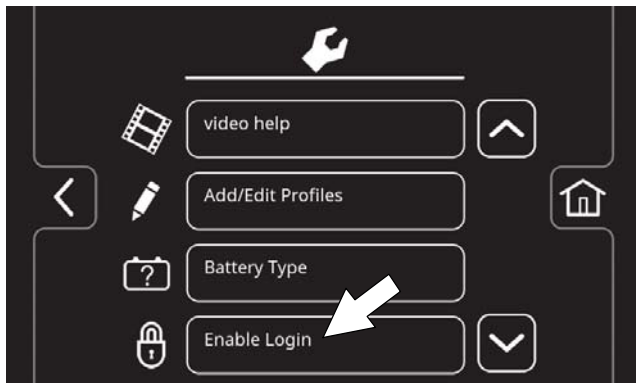

FIG. 171
4. Press the Enable Login button (Figure 171). The Enable button will change from Enable Login to Disable Login.